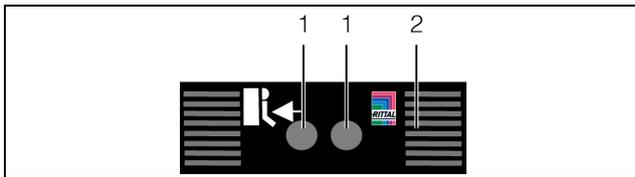
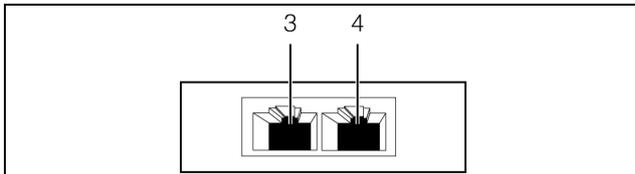

Fig. 11: Front of the access sensor
Fig. 12: Rear of the access sensor
A multi-LED for the status display is integrated into the front of the access sensor (fig. 11, item 2). Further LEDs are located at the rear on the CAN bus connection (fig. 12, item 3 and item 4).